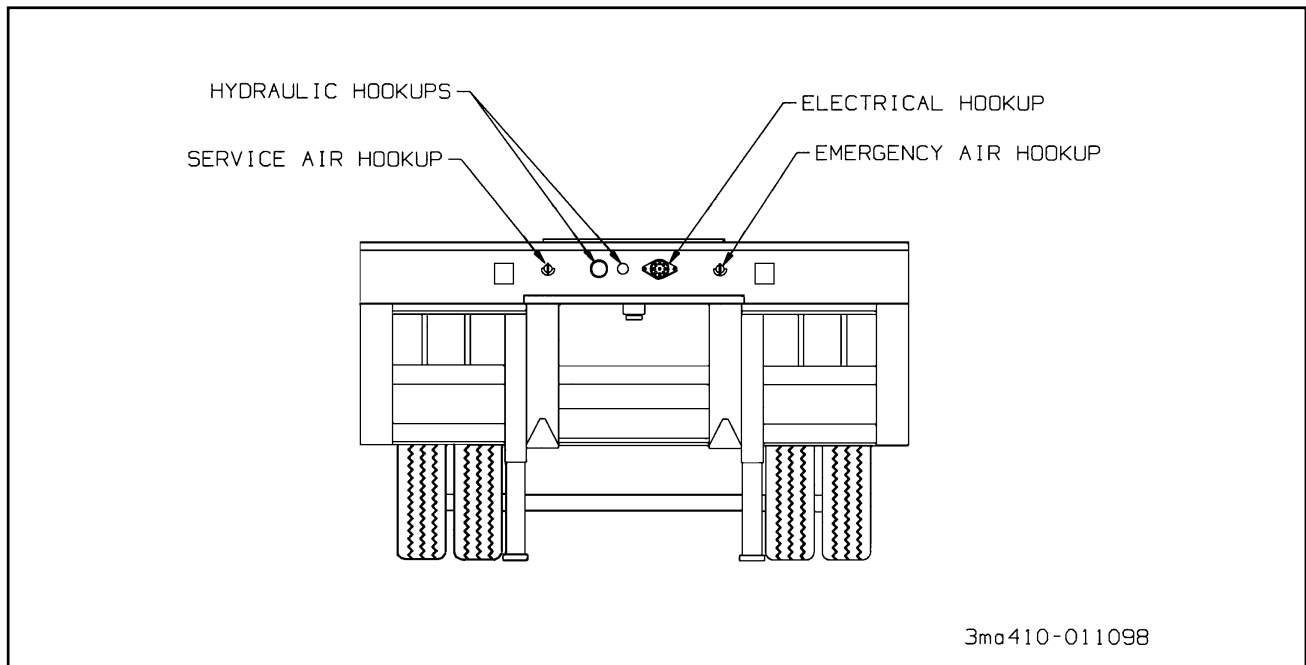

Figure 3-3 Service Hookups
**3-2.3** Connect the service and emergency air hoses of the towing vehicle to their respective gladhand on the front of the semitrailer; red emergency line to the gladhand with the "**EMERGENCY**" tag, and the blue service line to the gladhand with the "**SERVICE**" tag (See **Figure 3-3**). Chock the semitrailer wheels before activating the semitrailer air supply valve in the towing vehicle. Set the parking brakes.
**3-4.1** Connect the towing vehicle 7-pole electrical plug to the electrical receptacle on the front of the semitrailer (See Figure 3-3).